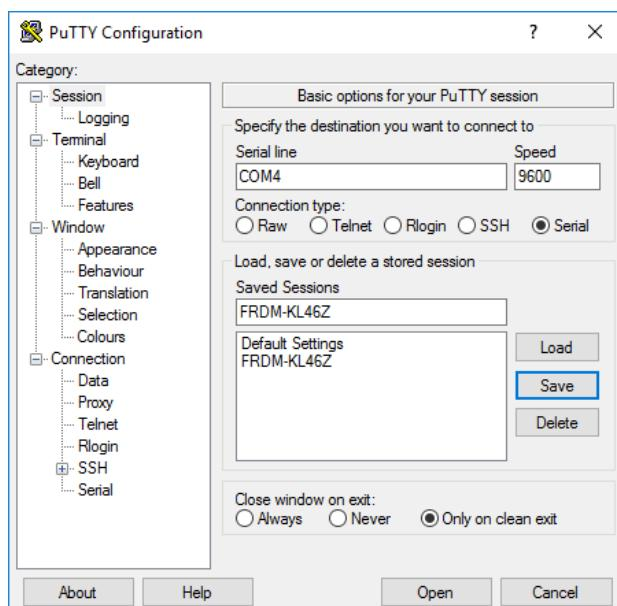

Figure 14: Session category of PuTTY.
- VIII. In the PuTTY configuration window, click on “Session” under “Category” and select the “Serial” radio button (Figure 14).